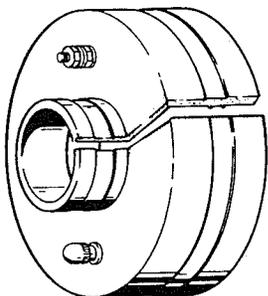

Figure 31. Clean and Scuff Split Area
7.33 Clean cut surfaces and scuff with SCOTCHCAST 4435 Sheath Scuff. Scuff both inside and outside surfaces of the cap near the cut edge. (Figure 31)